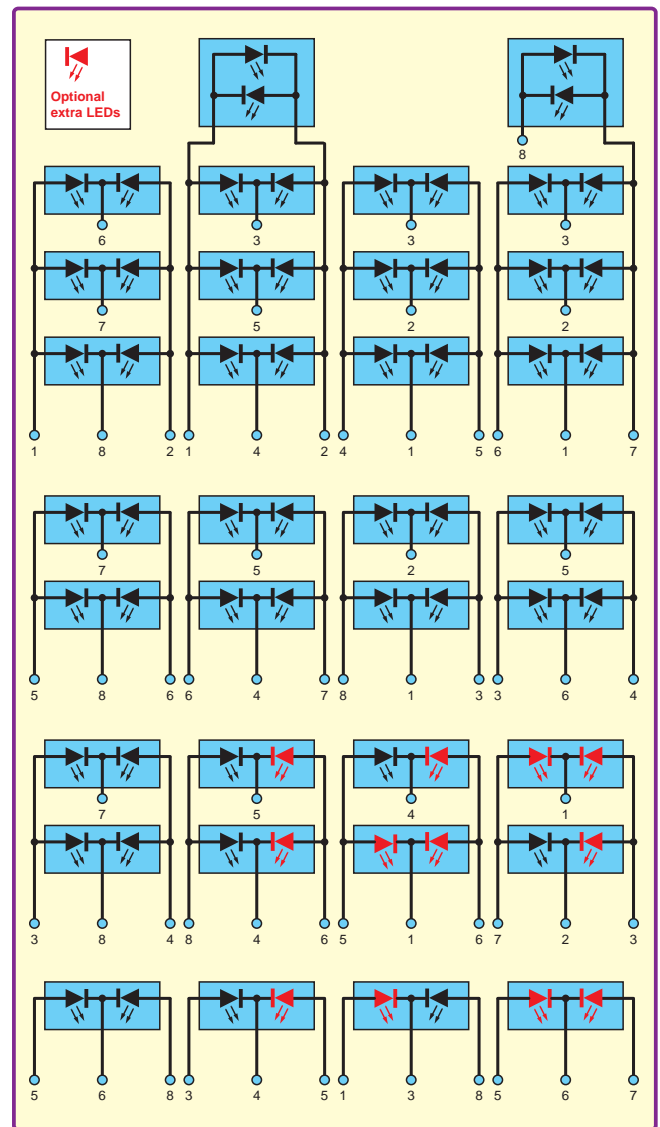
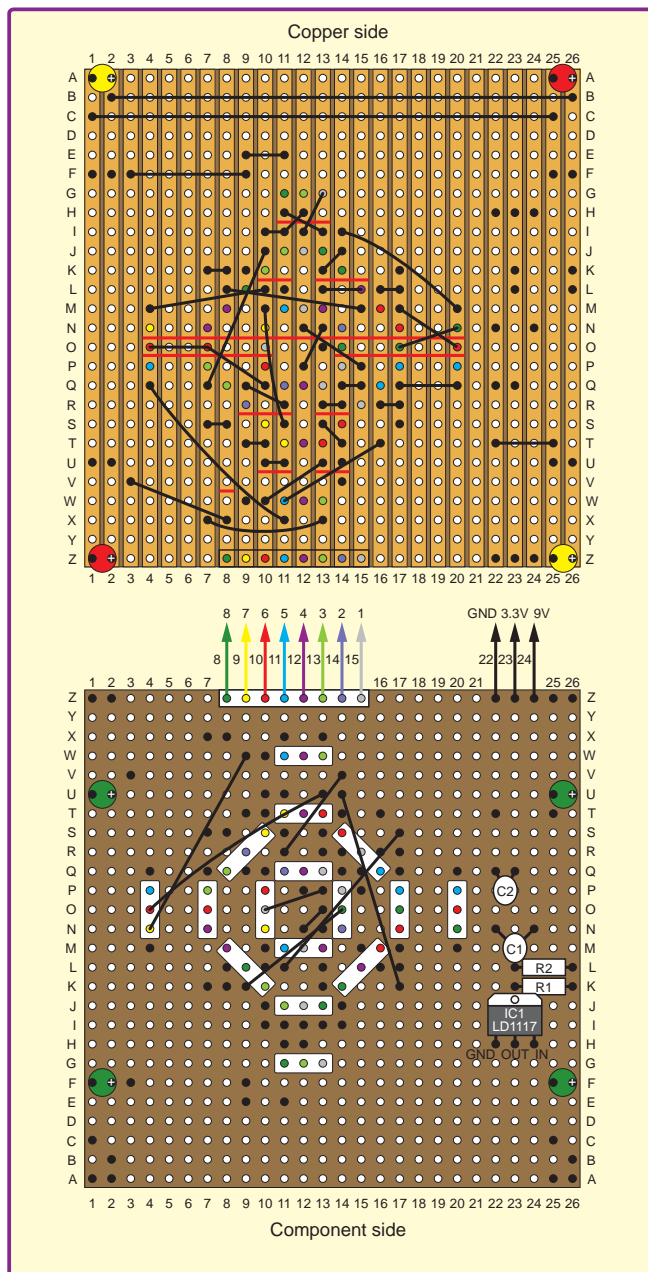

Fig.3. LED wiring diagram
Fig.4. Veroboard mapping – not the easiest diagram to follow! We recommend you download a high resolution PDF of this image from the EPE website
For the tree, Multicomp have a series of three-legged dual LEDs with the common cathode in the centre. They come in YELLOW/GREEN, ORANGE/GREEN and in RED/GREEN combinations (MLC239 range). These are a great way to reduce the number of wires and components in total. It's also very easy to vertically stack them on top of each other. See Fig.3 for our stacking arrangement. We have four stacked three high, eight stacked two high and four on their own. As the build process is a little complicated, I've itemised the instructions below.
I've designed the easiest way to wire up the Veroboard, with the minimum wiring. Fig.4 shows all of our cutting and wiring. Numbering the instructions again, we get:
- 1) See Fig.4 for where to cut the Veroboard. Each red line represents a cut in the Veroboard copper tracks. This isolates each connection. You should use a sharp craft knife to carefully cut the copper track.
- 2) Fig.4 also shows our wiring. Now this looks like a proper rats nest and it will take some time and care to get it all working. I have made it easier by colour coding the wiring connections and you should definitely add the alphanumeric coordinates to your board to help you navigate the 676 holes on the board! We can add an eight-row header to our board in the black outlined area. This is numbered for each specific colour (excluding the larger outer LEDs). This header allows us to connect up our PIC to control our LEDs.
- 4) Fig.4 also shows the top (component) side of our Veroboard, where you need to add just the eight wires shown.
Note that in Fig.4, I've stacked up the diodes three high for the four *centre columns*, the *next outer row* is two high, the *last outer row* is one single dual LED. Also notice that the centre pin on the columns may be different as well. Match the numbers at the bottom of each column to the mapping in Fig.4, which shows the pin mapping for the easiest Veroboard mapping.
Taking a look at both Fig.3 and Fig.4, we need to start pairing up our numbers and see where everything goes. Starting with *centre columns*, the three-stacked assembly, we start with our first column numbered 1,8,2. In our colour coding, this equates to grey, dark green and lilac (light purple). Looking at Fig.4, we can see this is on the right hand side (the LD1117
Our next three-stack is 1,4,2, which is grey, purple, lilac. Looking at Fig.4, this is just to the left of our first set of diodes. Continuing around like this, we can add all of our paired LEDs and build up our tree. Just a last note on this, there are four sets of two stacked high diodes, which are placed diagonally on the board. These are wired up in the same way.
As a little extra, the final two LED pairs at the top of the *centre columns* are Multicomp's 2-pin dual LEDs. These LEDs are wired with two diodes in parallel and in opposite directions to each other. If a high is seen on one side, one colour is visible, when a high is seen on the other side, a different colour is seen. See the two LEDs at the top in Fig.3.
You may have noticed that in Fig.3 we actually have 68 diodes in total. When building the tree I found using only the 56 LEDs leaves the tree unbalanced. These optional 12 diodes are not completely necessary and can be left unconnected. If used, they will be lit at the same time as other diodes, but I found these make the tree more aesthetically pleasing. I've highlighted the 12 extra diodes in red on Fig.3.
Last, but not least, connect up the GPIO pins to the LED Veroboard as shown in Fig.2. The Veroboard connection numbering (1-8) is matched to the LED pin numbering in Fig.3.